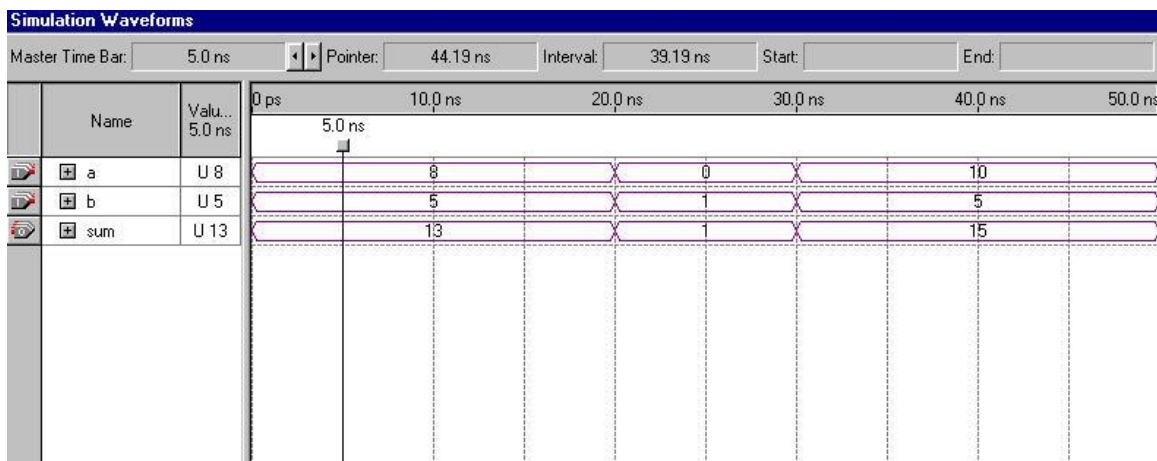

Figure 1-6.
6. Check to see if you get the same results shown in Figure 1-6.